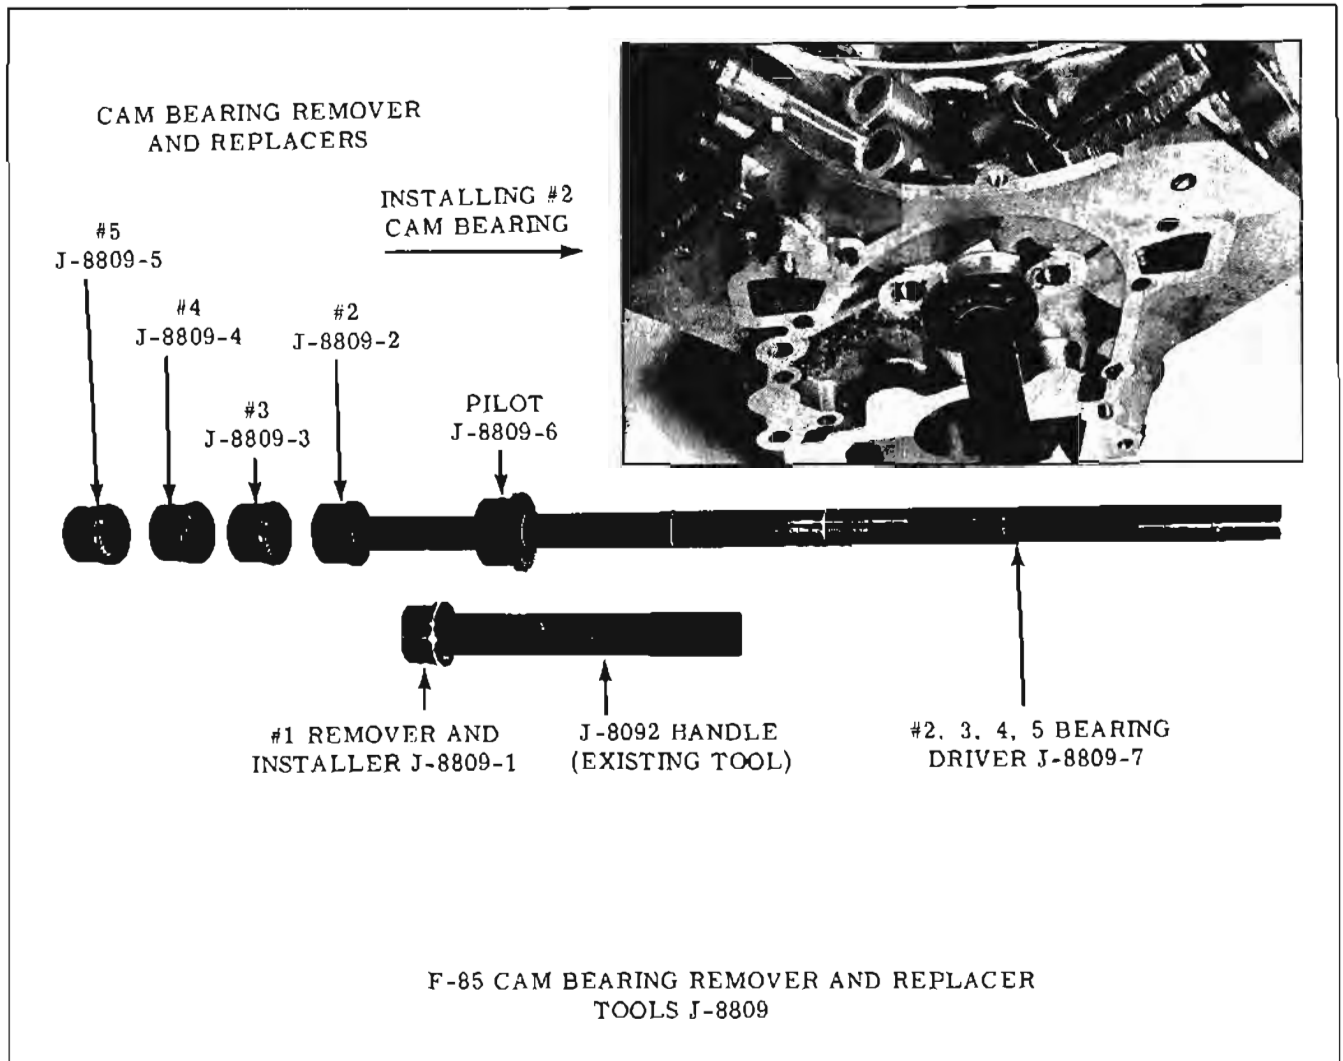

Fig. 8-146 Camshaft Bearing Tool
Included with the 1961 available tools is an F-85 Camshaft Bearing Remover and Installer Set J-8809 shown in Fig. 8-146.
**NOTE:** Set-up shown in Fig. 8-146, inset is used to install #2 bearing.